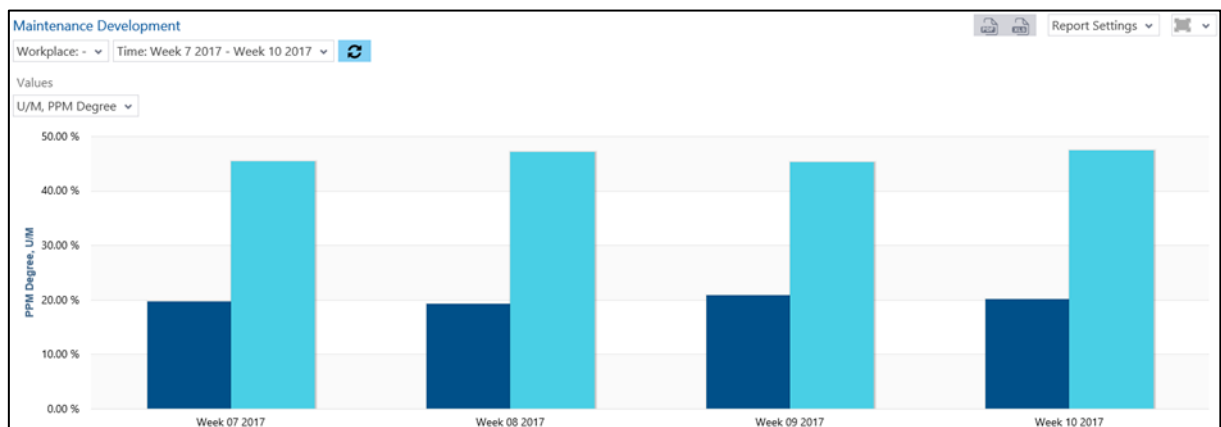

Fig. 163: Maintenance development as a column chart
- Maintenance development as a column chart (fig. 163):